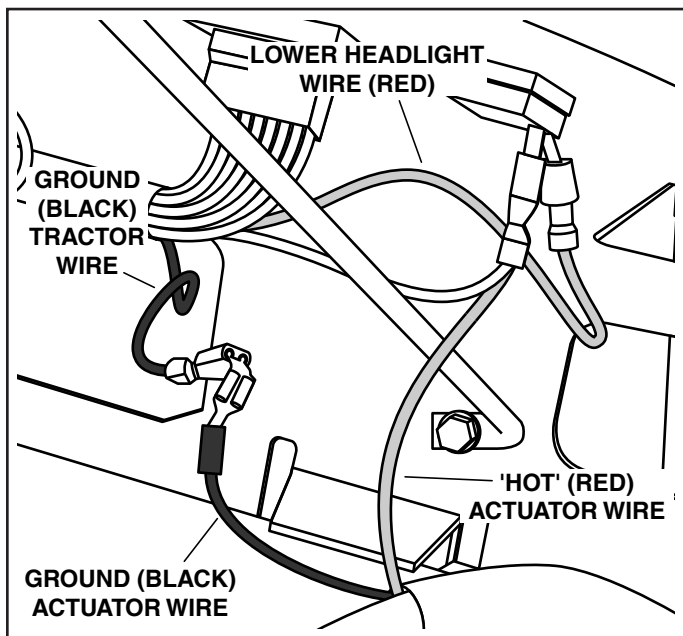

Figure 23.
1. See figure 23. Locate the ground wire (black) attached to the wiring harness of the tractor.
2. See figure 23. Insert the ground wire (black) from the actuator lift control wiring into the ground wire (black) of the tractor wiring harness.
3. See figure 23. Locate the lower headlight wire (red) attached to the headlight switch in the dash.
4. See figure 23. Unplug the lower headlight wire (red) and plug it into the 'hot' wire (red) of the actuator lift control wiring as shown.
5. See figure 23. Plug the 'hot' wire (red) of the actuator lift control wiring into the headlight switch in the dash that the lower headlight wire was removed from in step 4.